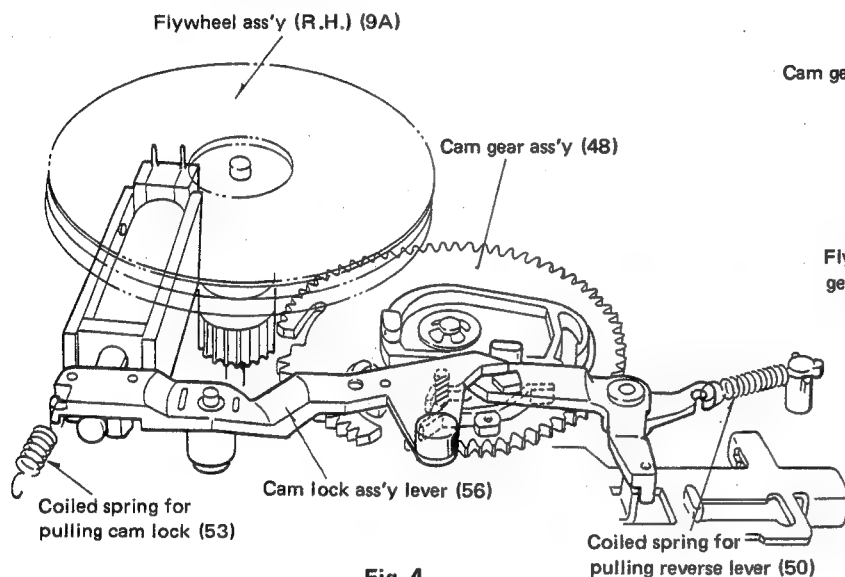
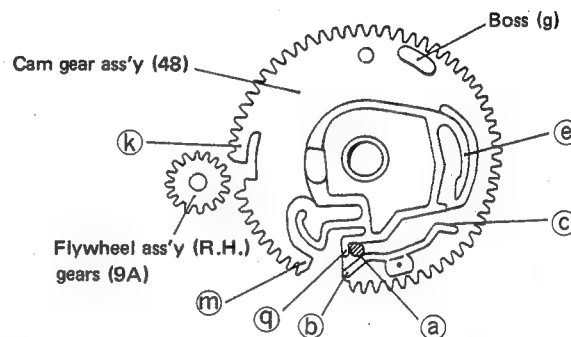

Fig. 4
Fig. 5
Fig. 4 illustrates the head slider mechanism immediately after half-mounting of the cassette. At this time, the combination head B (4) faces in the forward direction. The boss (a) on the cam lock ass'y lever (56) comes to the wall (a) of the cam gear ass'y (48) and stops there, as seen in Fig. 5. The notch (near (k)) in the cam gear ass'y